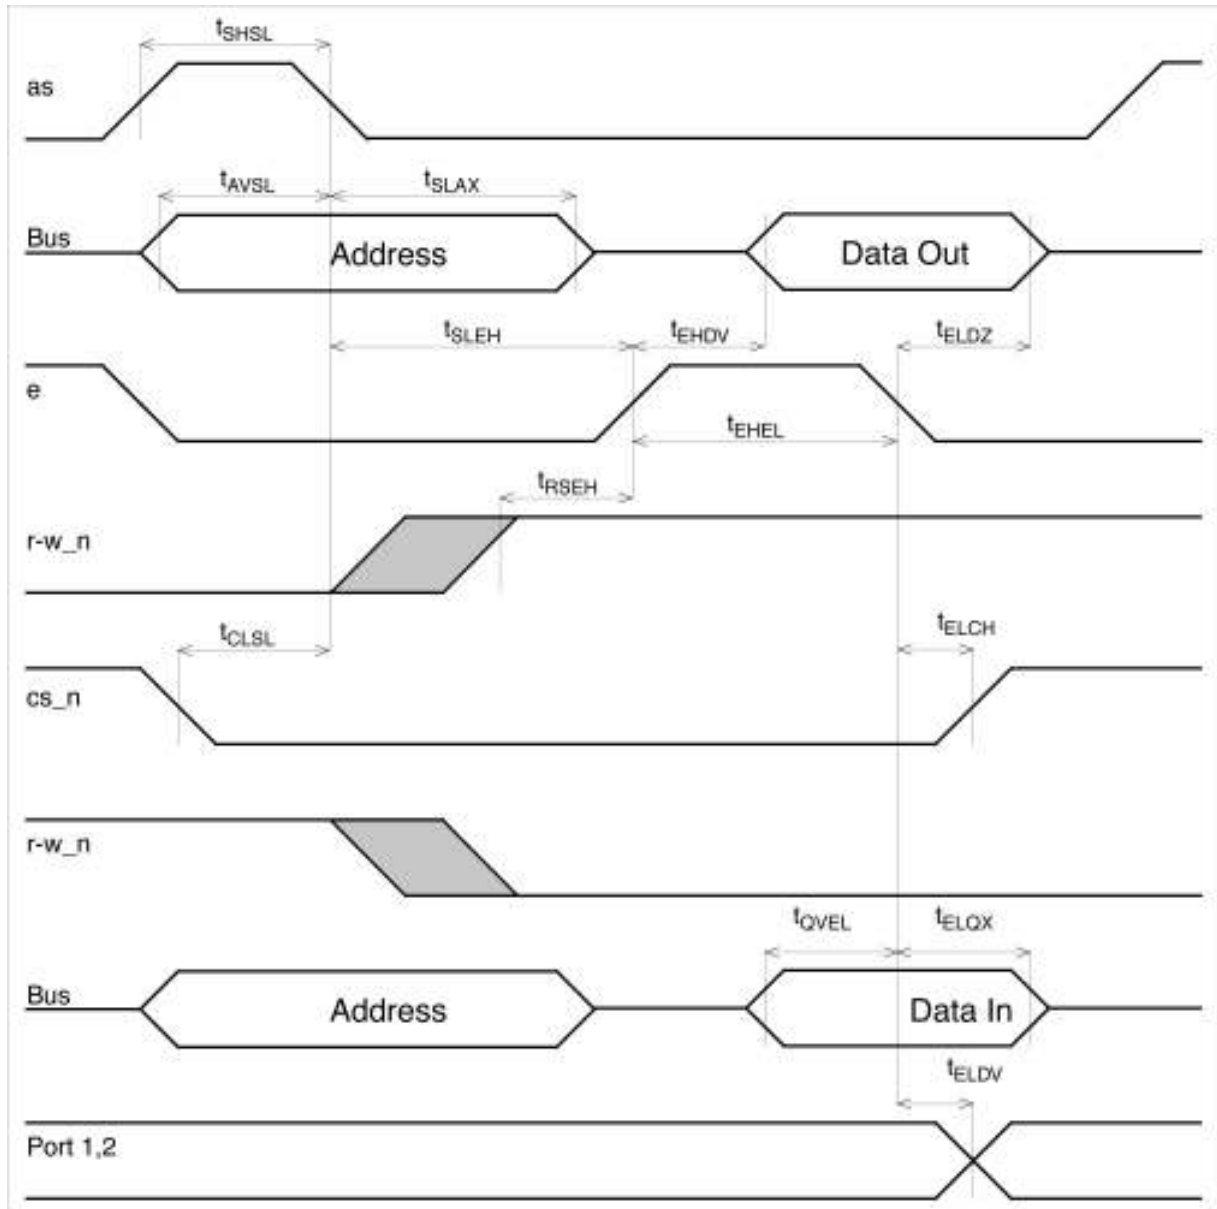

Figure 11. Mode 2 General Bus Timing
- Mode 2 General Bus Timing (Table 9/Figure 11)